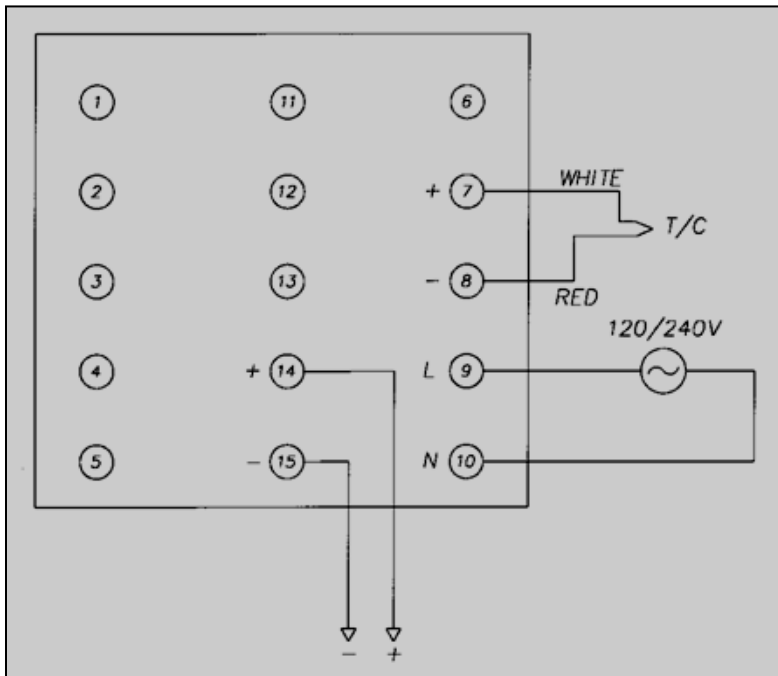

Figure 17. Connections to Control Instrument.
9. Reattach wires to the new Control instrument. Double-check that the wires are connected correctly. See Figure 17 for correct Control instrument connections.